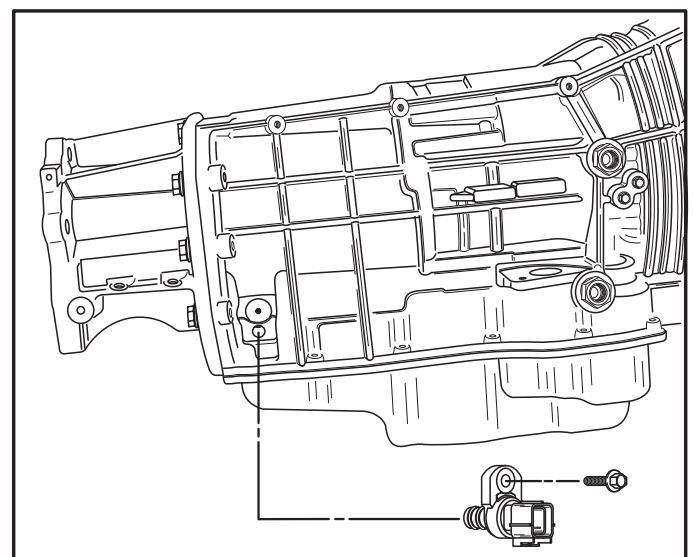

Figure 29
6. Remove the line pressure sensor from the case, as shown in Figure 29, remove and discard the "O" rings.